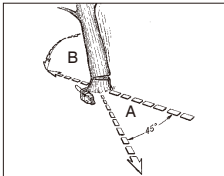

Fig. 11A
**⚠ WARNING:** A retreat path (A) should be planned and cleared as necessary before cuts are started. The retreat path should extend back and diagonally to the rear of the expected line of fall, as illustrated in Fig.11A.
**NOTE:** Direction of fall (B) is controlled by the notching cut. Before any cuts are made, consider the location of larger branches and natural lean of the tree to determine the way the tree will fall.
**⚠ WARNING:** As the felling cut gets close to the hinge, the tree should begin to fall. When tree begins to fall, remove saw from cut, stop engine, put chain saw down, and leave area along retreat path (Fig.11A).